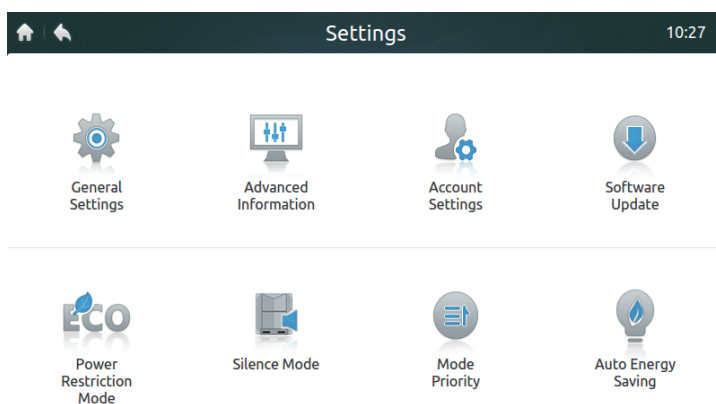
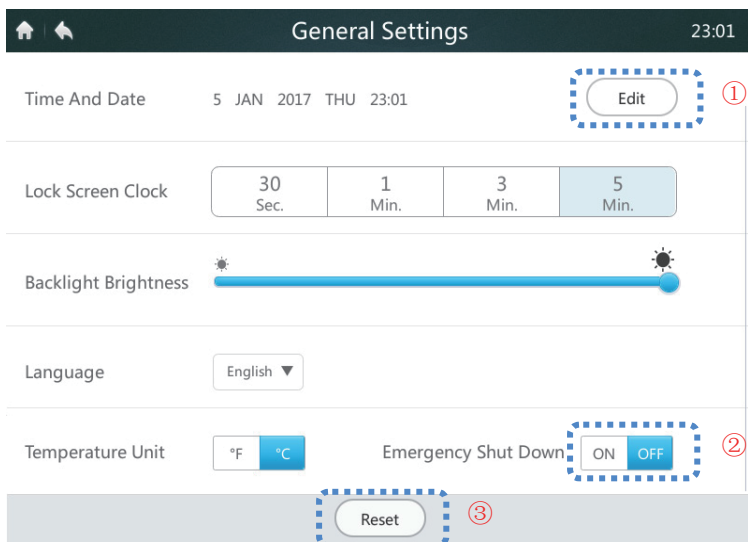
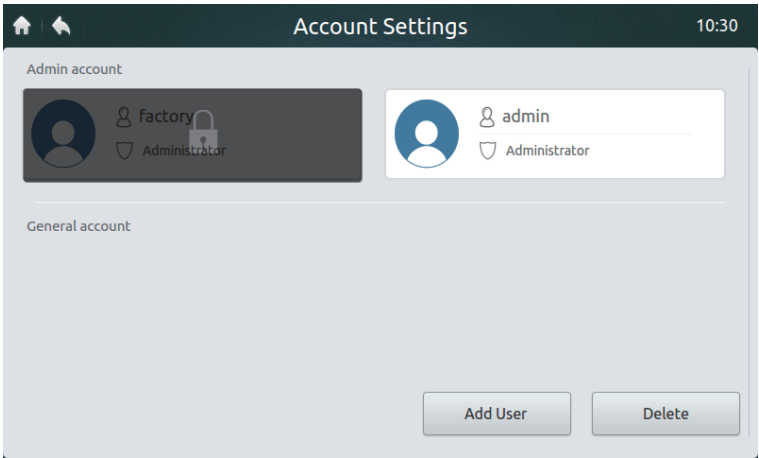

Figure 41 Homepage of Settings page
Figure 42 Homepage of General Settings
Figure 47 Homepage of Account Settings page
- 1. Tap "General Settings" in Figure 41 to enter the interface, as shown in Figure 42.
- 2. Tap the "Edit" button marked "1" in Figure 42 to access the interface below.
If an emergency occurs, tap the button marked "2" in Figure 42 to enable emergency shutdown. The centralized controller will send a shutdown command to all the IDUs and lock the remote controller. The IDUs can be restored only after the emergency switch is disabled.
Only the installation technician or administrator can enable the reset function. Tap the "Reset" button marked "3" in Figure 42 to delete user information (including the schedules, groups, common user accounts and reports), and restore the default settings (including the date, screen locking time, backlight, language, temperature and daylight saving time). The prompt will be displayed by tapping the "Reset" button. To confirm the operation, tap the "Yes" button to continue and restart the centralized controller. Tap the "No" button to cancel the reset.
- 2. Tap "Advanced Information", as shown in Figure 41, to enter the interface below. You can select to view the ODU or IDU parameters. For details, see Tables 12 and 13.
2. Tap "Account Settings", as shown in Figure 41, to enter the interface, as shown in Figure 47.
3. Tap the "Add User" button in the lower right corner of Figure 47 to display the interface below. Enter the user name and password (enter the password twice), and then tap the "Add" button to save the setting. Tap the "Cancel" button to cancel the setting.
4. Tap the "Delete" button in the lower right corner, as shown in Figure 47, to display the icon in the top right corner of common user account, as shown below. Tap the icon in the top right corner of the user to be deleted.